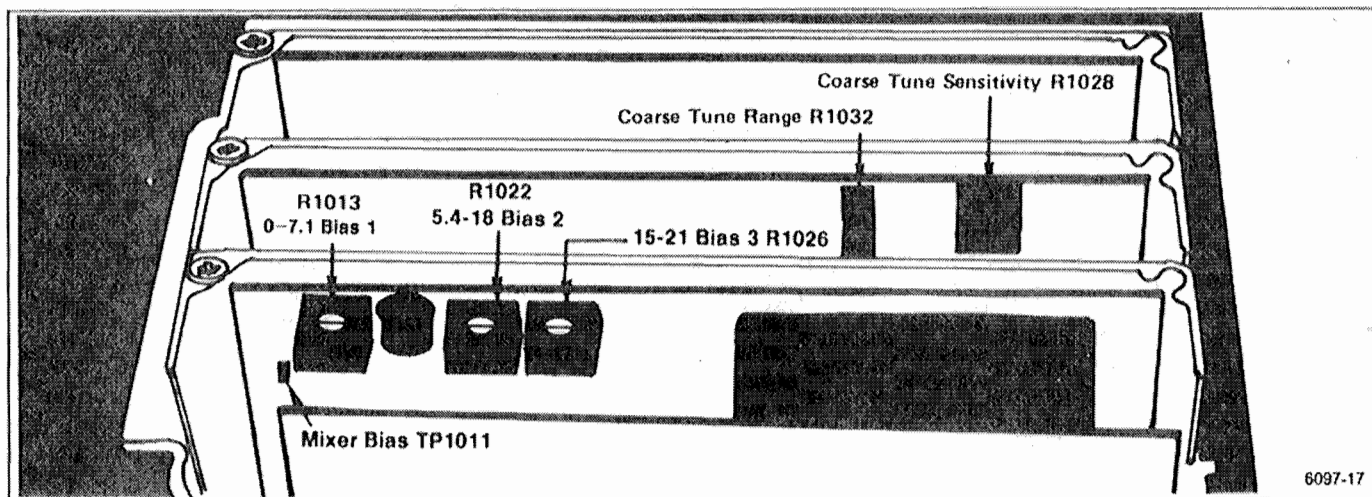

Figure 5-11. 1st LO Driver board adjustment and test point locations.
b. Monitor TP1011 on the 1st LO Driver board (Figure 5-11) with a voltmeter (voltmeter between TP1011 and crt shield).
c. Adjust R1013 (Figure 5-11) for a reading of -1.0 V.
- b. Monitor TP1011 on the 1st LO Driver board (Figure 5-11) with a voltmeter (meter ground at crt shield). Adjust Bias 2 R1022 for a meter reading of  $-0.25$  V.